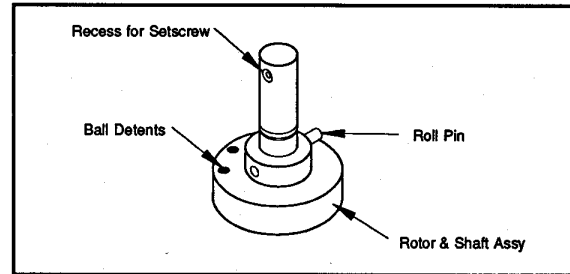

Figure 6. Correct Assembly of Rotor, Shaft, & Roll Pin
5. Install the roll pin (20) into the rotor (37) and shaft (36). Note that one end of the shaft contains a recess for the setscrew (24). The roll pin should be installed from the side opposite the recess and driven through the shaft until one end of the roll pin is flush with the side of the rotor (same side as recess in shaft). The roll pin should be sticking out of the other side of the rotor. Refer to figure 6 & 7 for correct orientation of parts.